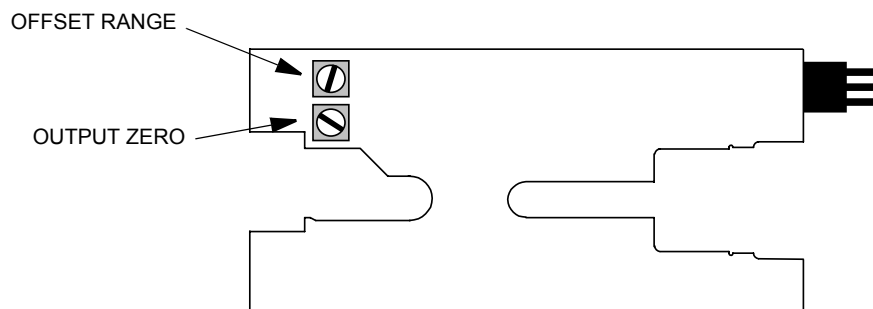

Figure 8-2. Adjustment Locations
6. Adjust **OFFSET ZERO** on the board until the DMM reads 0 V \pm 100 μ V. Refer to Figure 8-2 for adjustment location.